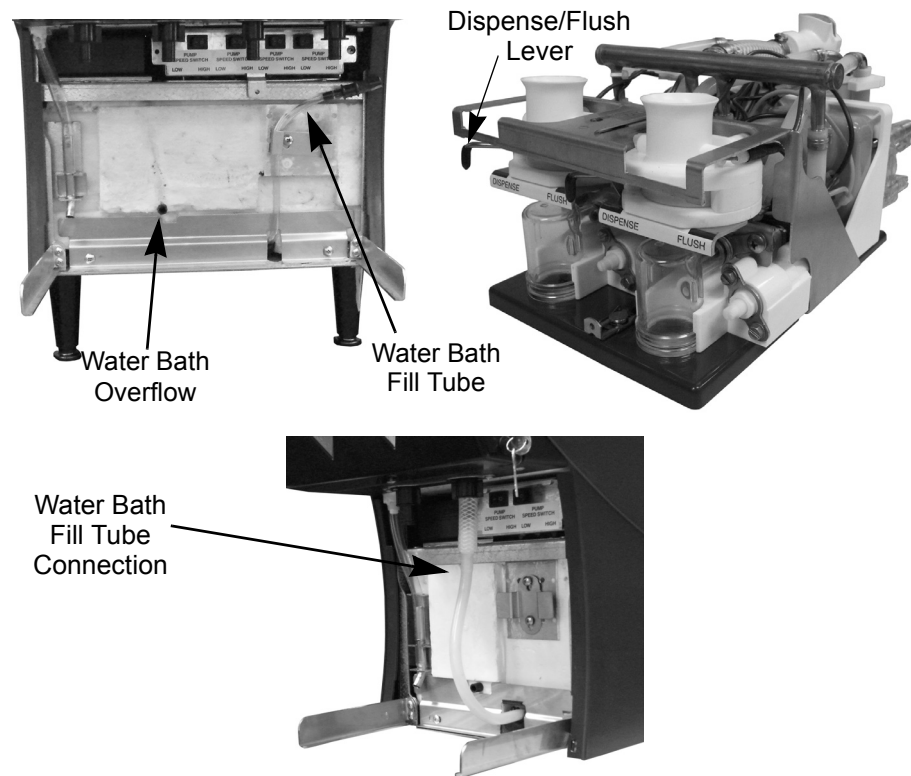

Figure 5. Water Bath and Dispense/Flush Lever
2. Open the door and verify that the flush/dispense lever is in the dispense mode. (see Figure 5) Ice bath must always be filled in the dispense mode.